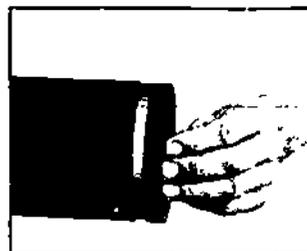

Figure 13-3. Checking Pipe Ends
g) Assembly of couplings — styles 22, 31, 41, 44, 71, 75, 77 — is shown step-by-step in Figures 13-3 to 13-8.
*Step 1:* The pipe must be free from indentations, projections, or roll marks on the exterior from the end to the groove (Figure 13-3) to ensure a leak-tight seat for the gasket.